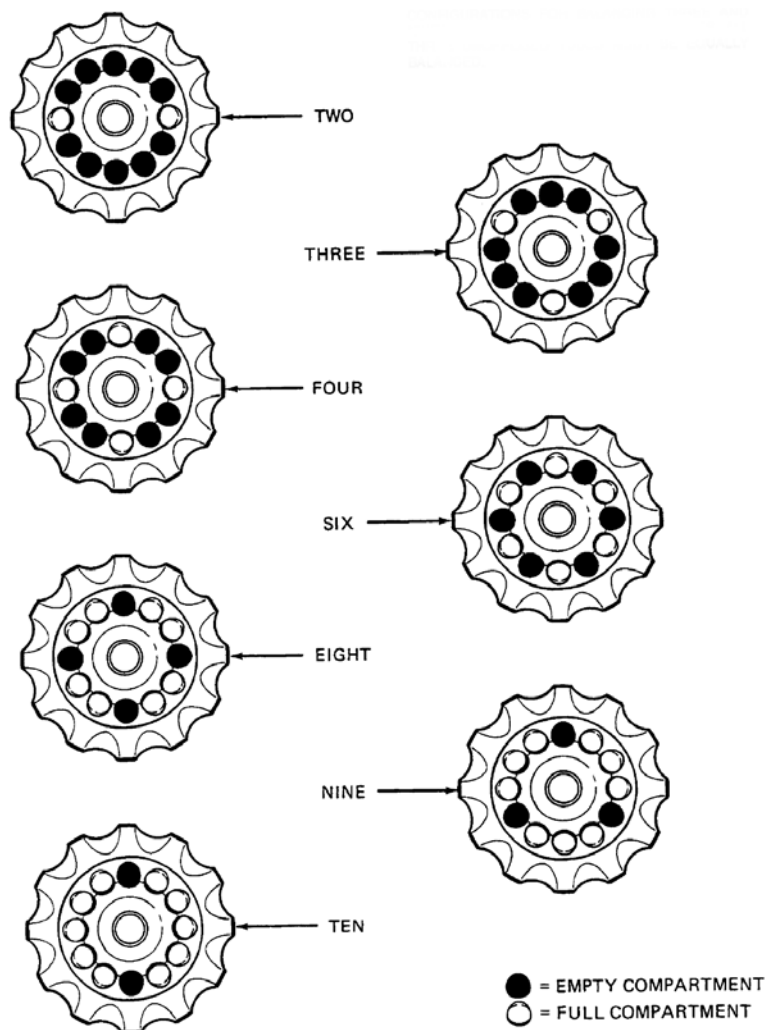

Figure 2-2. Compartment Loading
- when using less than a full complement of twelve tubes, the rotor can be operated at maximum allowable speed with groups of two, three, four, six, eight, nine or ten samples, provided opposing pairs are positioned as shown in figure 2-2.